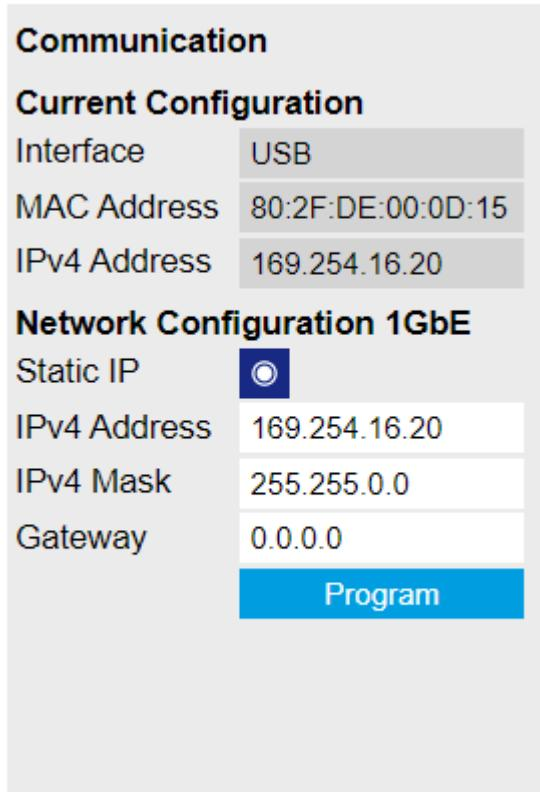

Figure 2.24: Configuration of static IP in LabOne UI
3. Open the LabOne user interface (UI) and connect to the instrument via USB.
4. Open the "Device" tab of the LabOne UI and locate the "Communication" section as shown in Figure 2.24, "Configuration of static IP in LabOne UI", on page 28.